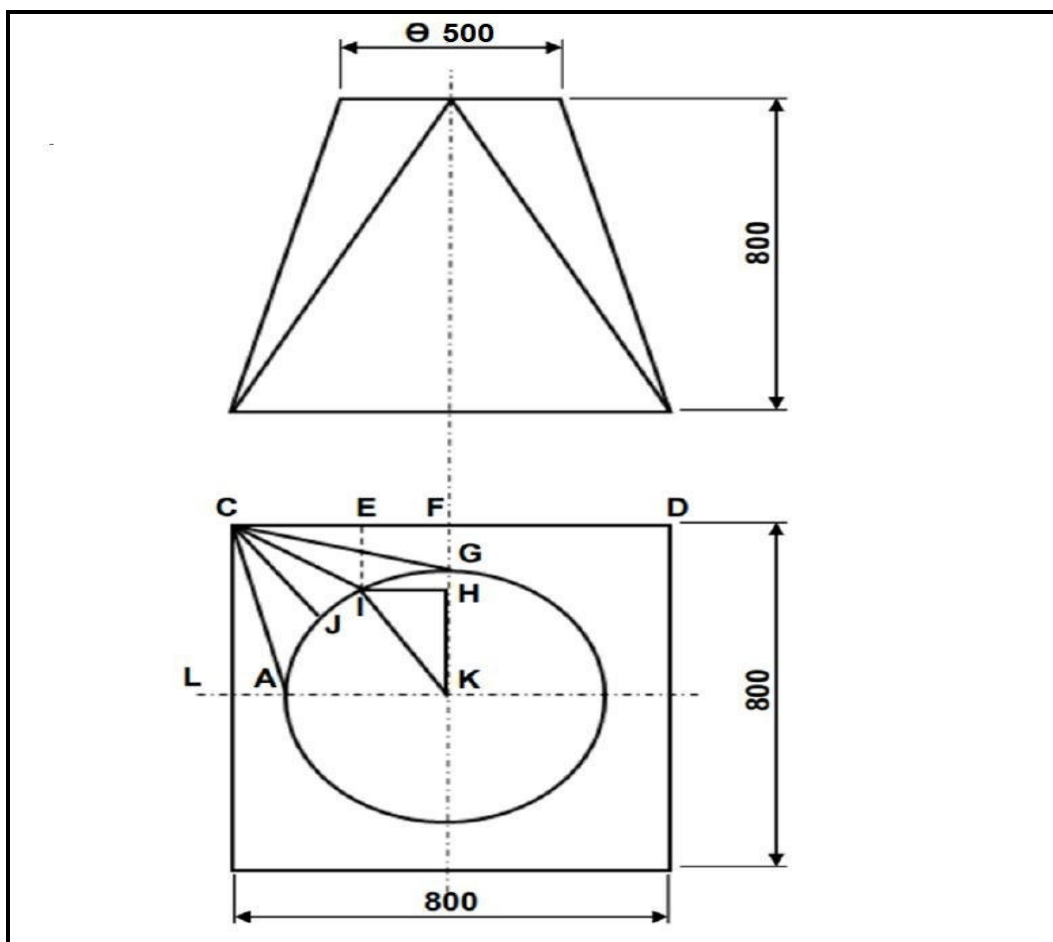

FIGURE 11.1
- 11.3 FIGURE 11.1 below shows a square-to-round transition piece. In order to develop the transition, the true lengths must be calculated.